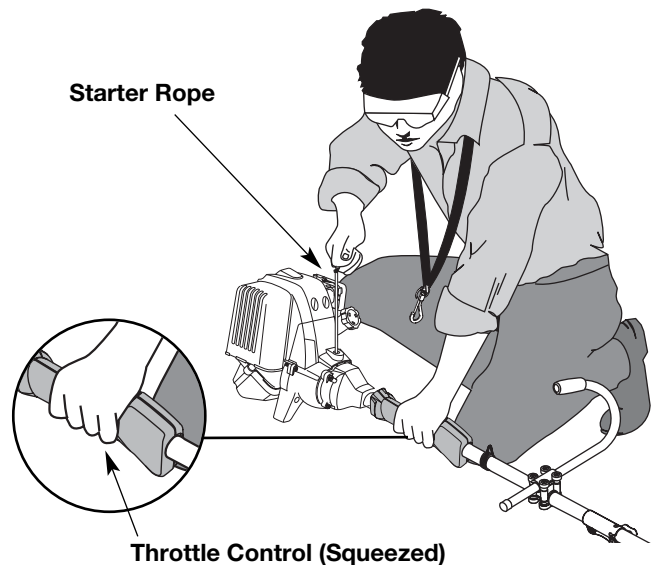

Fig. 22
**WARNING:** Avoid accidental starting. Make sure you are in the starting position when pulling the starter rope (Fig. 22). To avoid serious injury, the operator and unit must be in a stable position while starting. To avoid serious personal injury, ensure any Add-On being used is installed correctly and secure before starting the unit.
6. Crouch in the starting position (Fig. 22) and squeeze the throttle control. Pull the starter rope briskly 5 times.